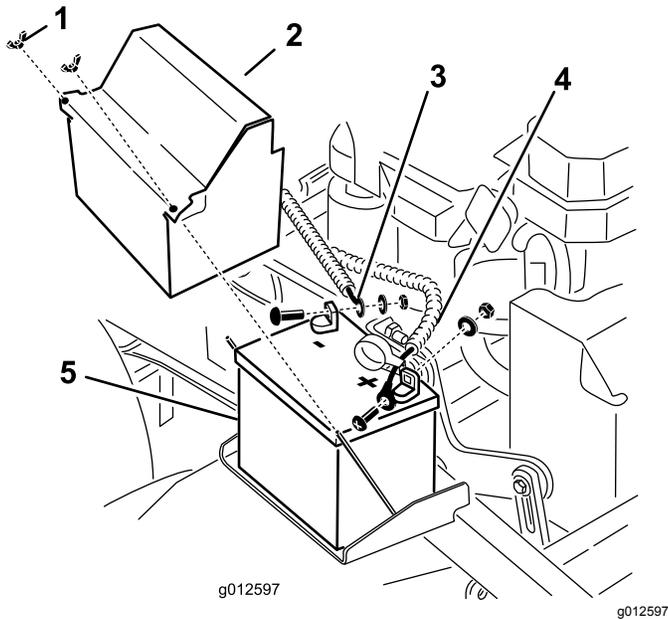

Figure 27
11. Install the battery for the machine (Figure 27).